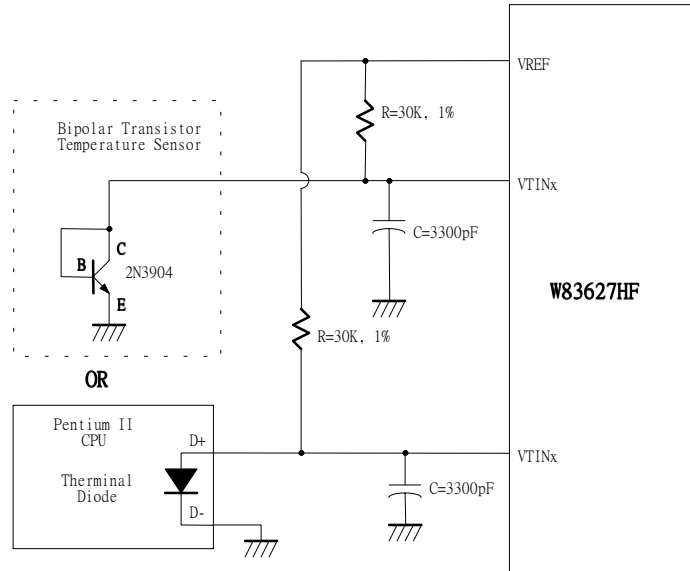

Figure 11.3
The W83627HF can alternate the thermistor to Pentium II™ (Deschutes) thermal diode interface or transistor 2N3904 and the circuit connection is shown as Figure 11.3. The pin of Pentium II™ D- is connected to power supply ground (GND) and the pin D+ is connected to pin VTINx in the W83627HF. The resistor R=30K ohms should be connected to VREF to supply the diode bias current and the bypass capacitor C=3300pF should be added to filter the high frequency noise. The transistor 2N3904 should be connected to a form with a diode, that is, the Base (B) and Collector (C) in the 2N3904 should be tied together to act as a thermal diode.